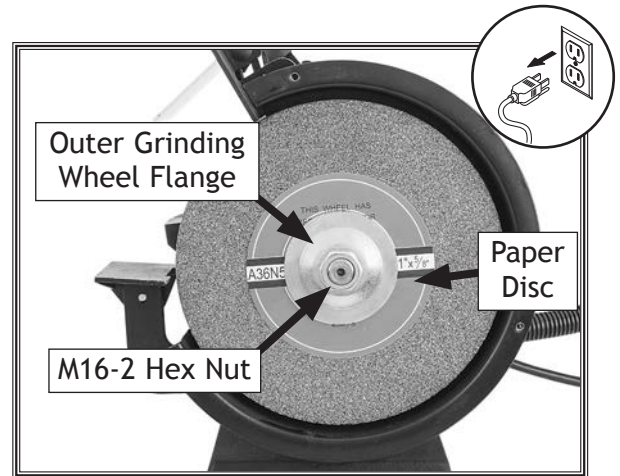

Figure 19. Outer wheel guard removed.
3. Remove M16-2 hex nut (see Figure 19).